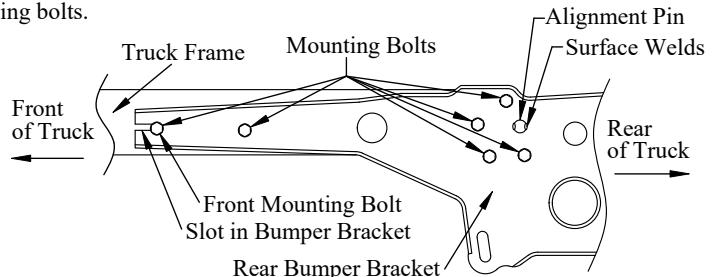

Figure 6: View of rear bumper bracket on outside of frame.
4. Grind the welds on the outer surface of the rear bumper bracket that are holding the rear bumper alignment pin in place, one (1) per side (Figure 6).